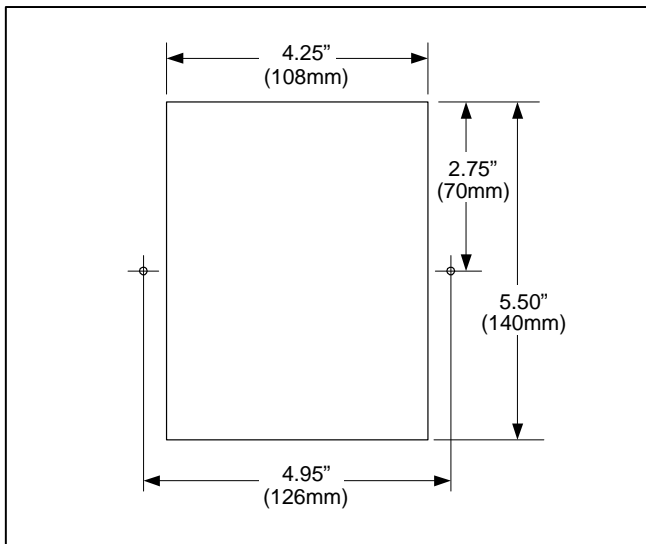

FIGURE 4. PANEL FOOTPRINT
2. Locate desired location on the modular panel and cutout rectangle and holes as shown in Figure 4.